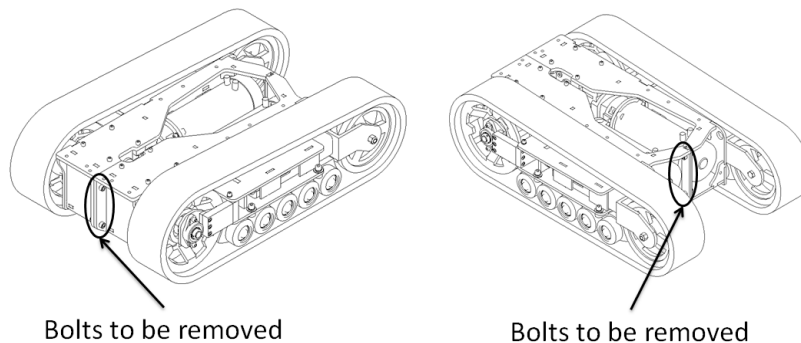

Figure 34 : Separate the traction system (M-27 and AL-27)
5. For the M-27 and AL-27 models, separate the 2 sections of the traction system by removing the 4 bolts (see Figure 34).
6. For the M-27 and AL-27 models, separate the 2 sections of the traction system by removing the 4 bolts (see Figure 34).